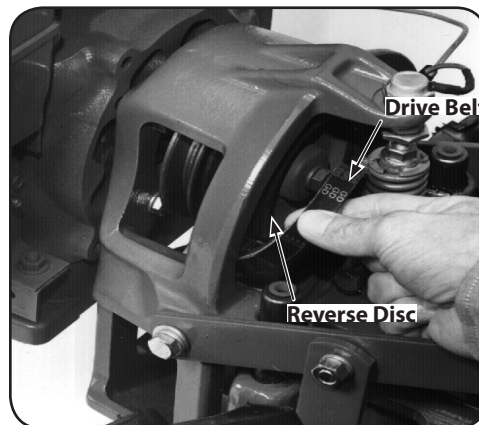

Figure 5-27
5. Lift the top half of the belt up and over the upper pulley and the rubber reverse disc, moving it in front of the reverse disc. See Figure 5-27.